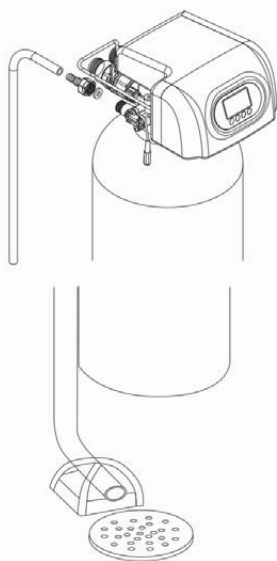

Figure 1-4
⑤ Install drain pipeline
- As the Figure 1-4 shows, slide the drain hose connector into drain outlet.
- Locate the drain hose well as the Figure 1-4 shows.
- Be sure not connect drain with sewer directly, and leave a certain space between them, avoid wastewater being absorbing to the water treatment equipment, such as showed in the Figure1-4. If want to use the wastewater for other using, it can be filled with a corresponding container. Similarly, the drain pipe should be kept a certain space with the container.